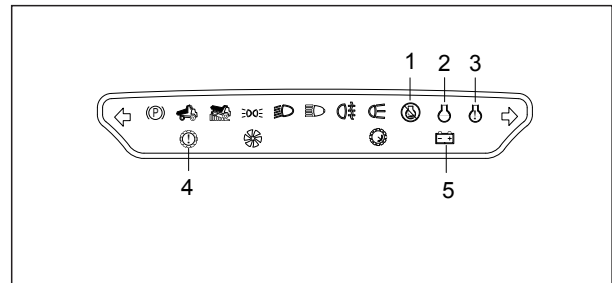

Fig 4.16
5. Check the instrument panel; the engine “maintenance”, “warning”, and “stop” indicators shall flash for several seconds and then extinguish; the “Alternator Charging” and “transmission fault” indicators shall be constantly on; “transmission state” indicator show red, “engine state” and “vehicle monitor system state” indicators show green, no buzzer alarm (see Fig4-16).